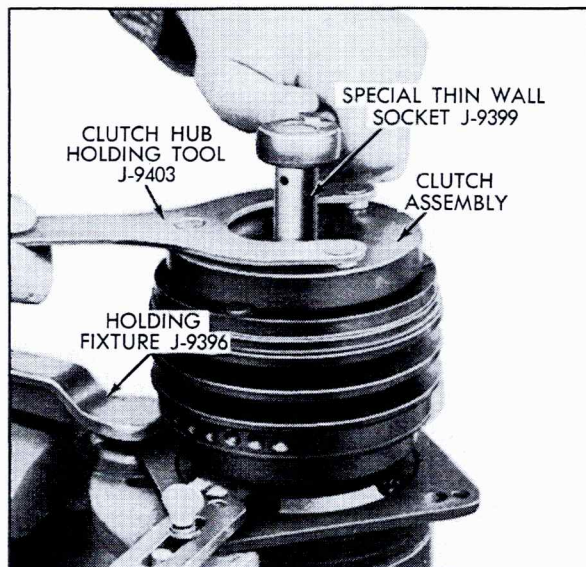
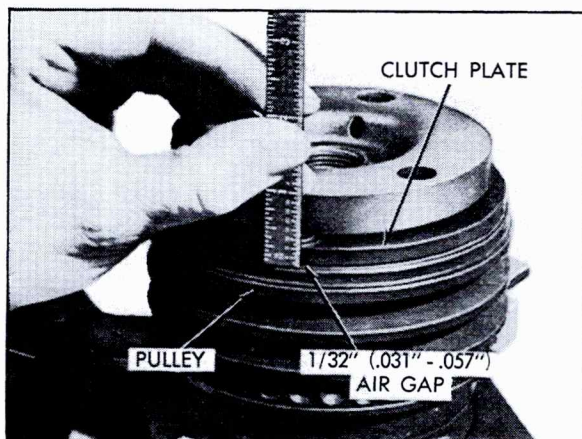

Fig. 1-37 Removing Lock Nut
Fig. 1-41 Checking Air Gap
2. Keep clutch hub from turning with Clutch Hub Holding Tool, J-9403, and remove locknut from end of shaft, using Thin Wall Socket, J-9399, Fig. 1-37.
10. Install a new shaft locknut with small diameter boss of nut against hub spacer, using special Thin Wall Socket J-9399, Fig. 1-37. Hold clutch hub with Clutch Hub Holding Tool, J-9403, and tighten nut to 15 foot-pounds torque, using a 0-25 foot-pounds torque wrench. Air gap between frictional surfaces of pulley and clutch plate should now be approximately $\frac{1}{32}$ inch (.031 inch to .057 inch), Fig. 1-41.